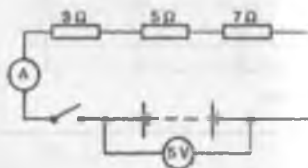

Figure 5.37
- 3 With the switch in Fig. 5.37 closed, the ammeter reading will indicate: